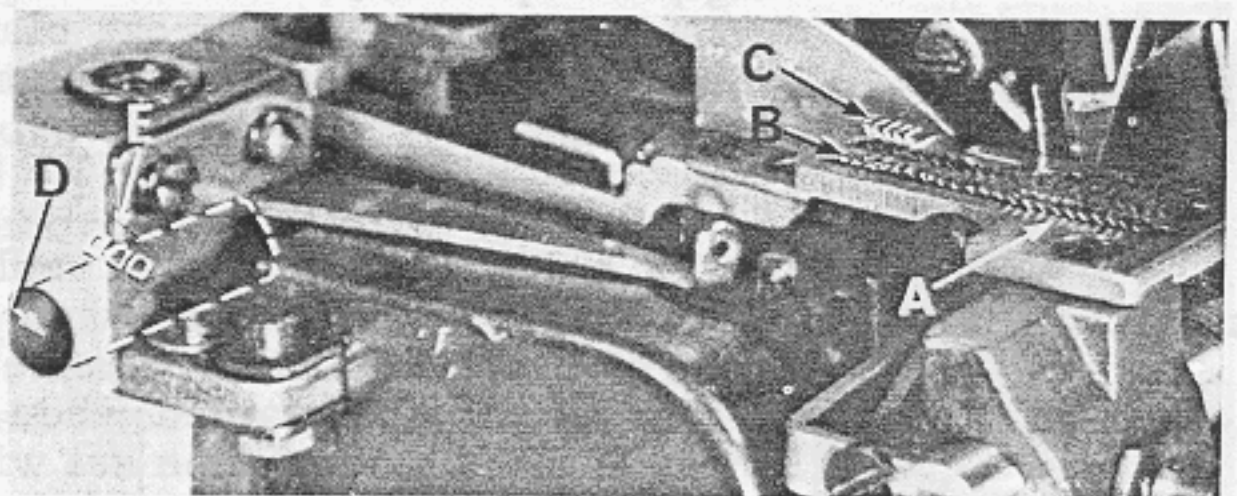

Fig. 10
Now assemble main (back) feed dog (B, Fig. 10) and chaining feed (C). Set all feed dog (A, B, C, Fig. 10) so the top surfaces of the teeth all lie in the same plane. This can be checked by sighting across the teeth with a straight edge. Now assemble throat plate. Feed dogs should now be leveled with throat plate surface by rotating feed tilting adjusting pin (D). This pin raises or lowers the back end of feed bar.